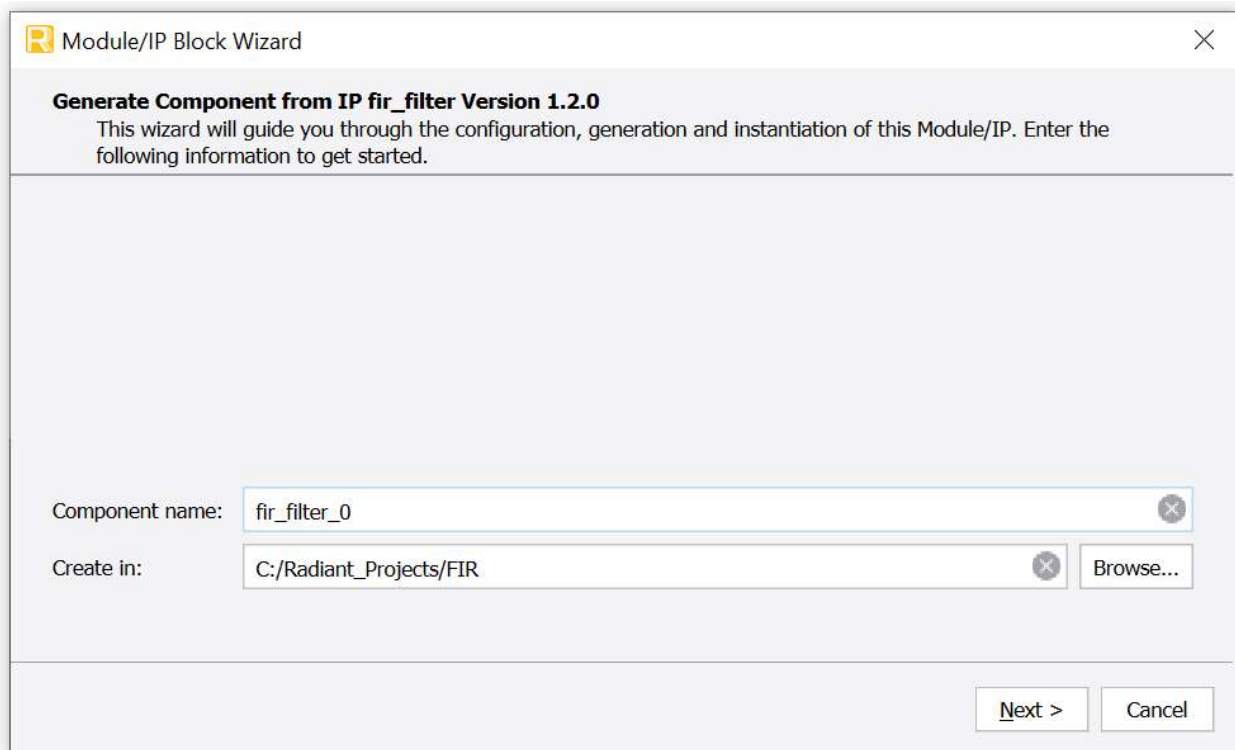
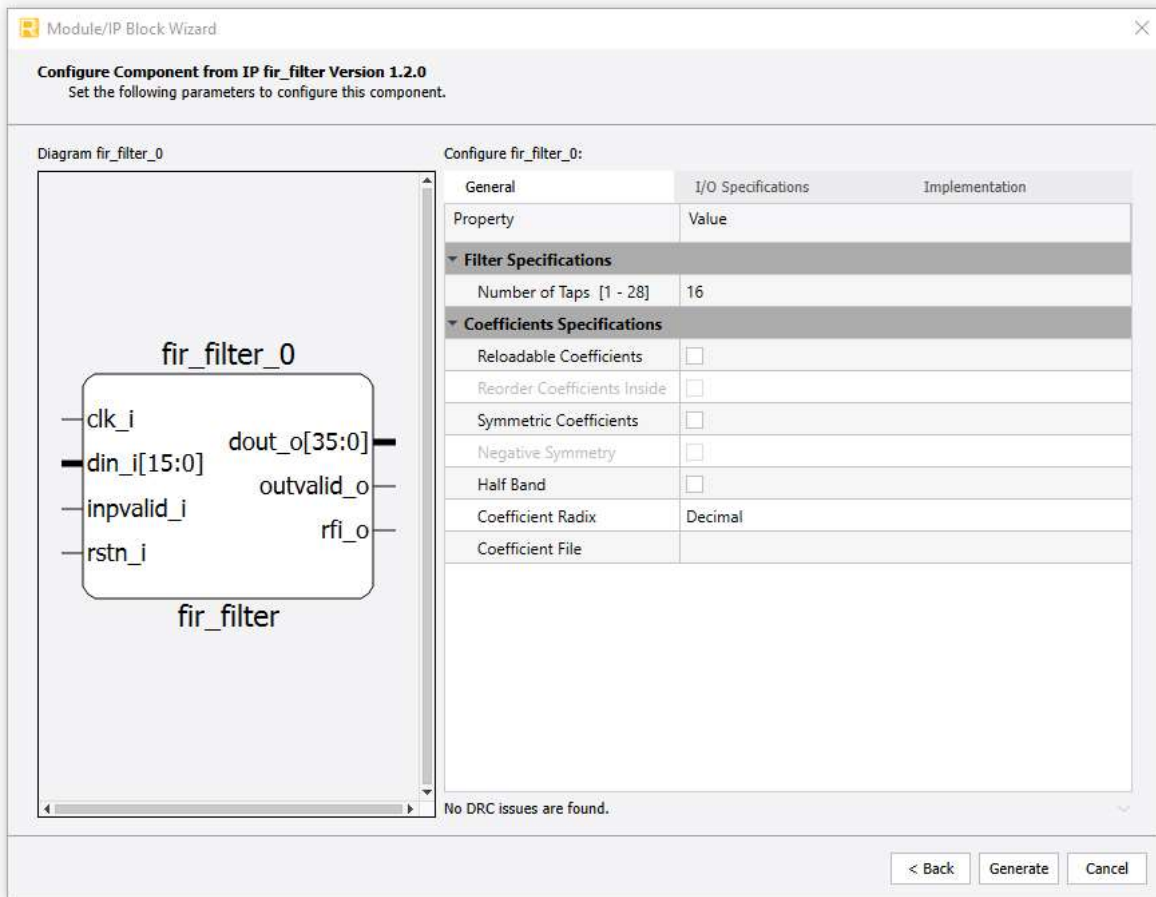
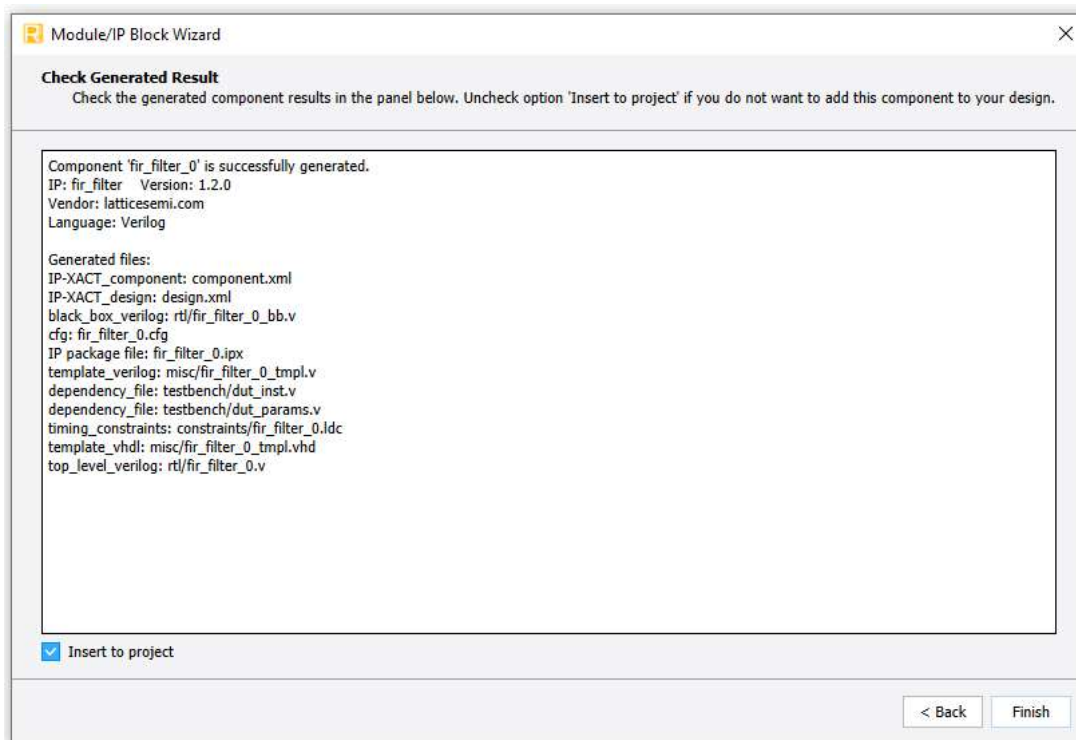

Figure 3.1. Module/IP Block Wizard
Figure 3.2. Configure User Interface of FIR Filter IP Core
Figure 3.3. Check Generated Result
2. In the **IP Catalog** tab, double-click on **FIR Filter** under **IP, DSP** category. The **Module/IP Block Wizard** opens as shown in Figure 3.1. Enter values in the **Instance name** and the **Create in** fields and click **Next**.
- In the module's dialog box of the **Module/IP Block Wizard** window, customize the selected FIR Filter IP Core using drop-down menus and check boxes. As a sample configuration, see Figure 3.2. For configuration options, see the Attribute Summary section.
- Click **Generate**. The **Check Generating Result** dialog box opens, showing design block messages and results as shown in Figure 3.3.
5. Click the **Finish** button. All the generated files are placed under the directory paths in the **Create in** and the **Instance name** fields shown in Figure 3.1.
IP Generation and Evaluation	Updated Figure 3.1. Module/IP Block Wizard , Figure 3.2. Configure User Interface of FIR Filter IP Core and Figure 3.3. Check Generated Result .